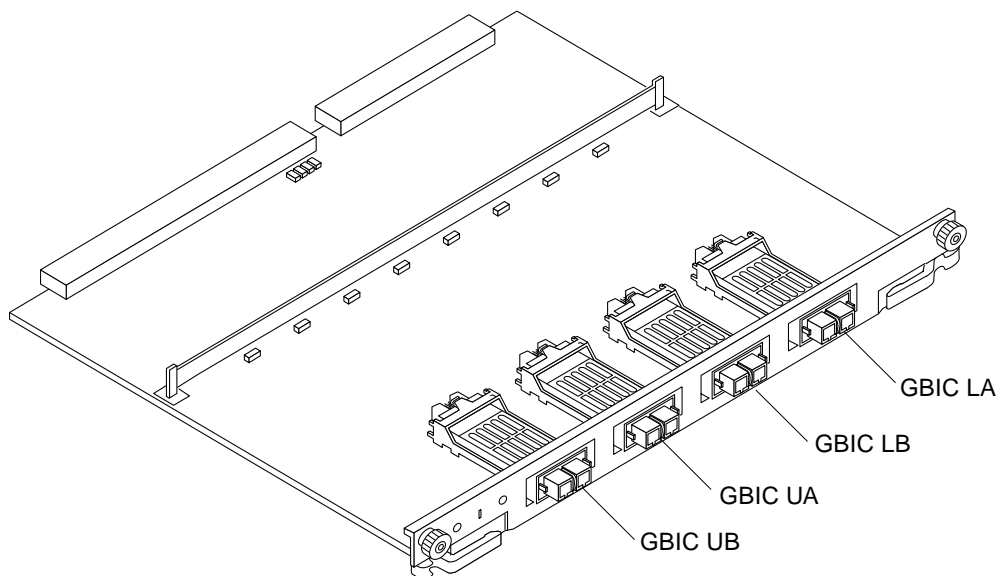

FIGURE 2-10 Interface Board
Internal FC-AL disk drives require an interface board (IB) to communicate via the I/O+ board. FIGURE 2-10 identifies the GBIC ports on the interface board, and TABLE 2-2 identifies the GBIC associated with each disk drive.